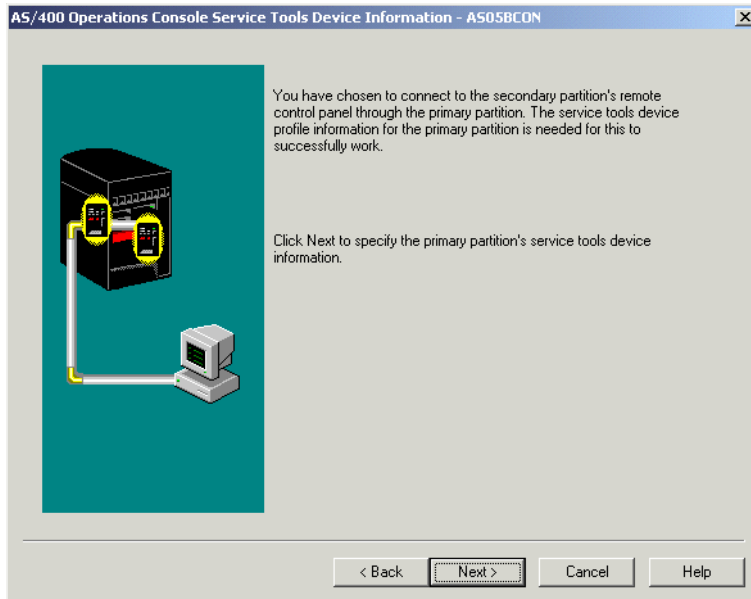

Figure 7-41 AS/400 Operations Console Service Tools Device Information display (secondary)
11. The AS/400 Operations Console Service Tools Device Information display appears as shown in Figure 7-41. As mentioned previously, the Remote Control Panel function for a secondary partition must access the primary partition to retrieve the control panel status. Click **Next** to proceed.